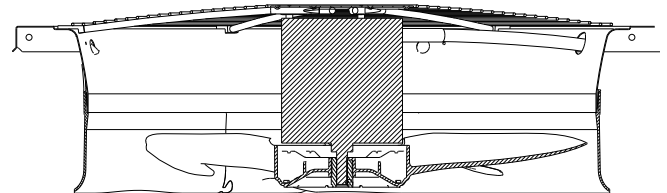

Fig. 31 — Condenser Fan Adjustment
2. Remove condenser-fan assembly (grille, motor, and fan). See Fig. 31.